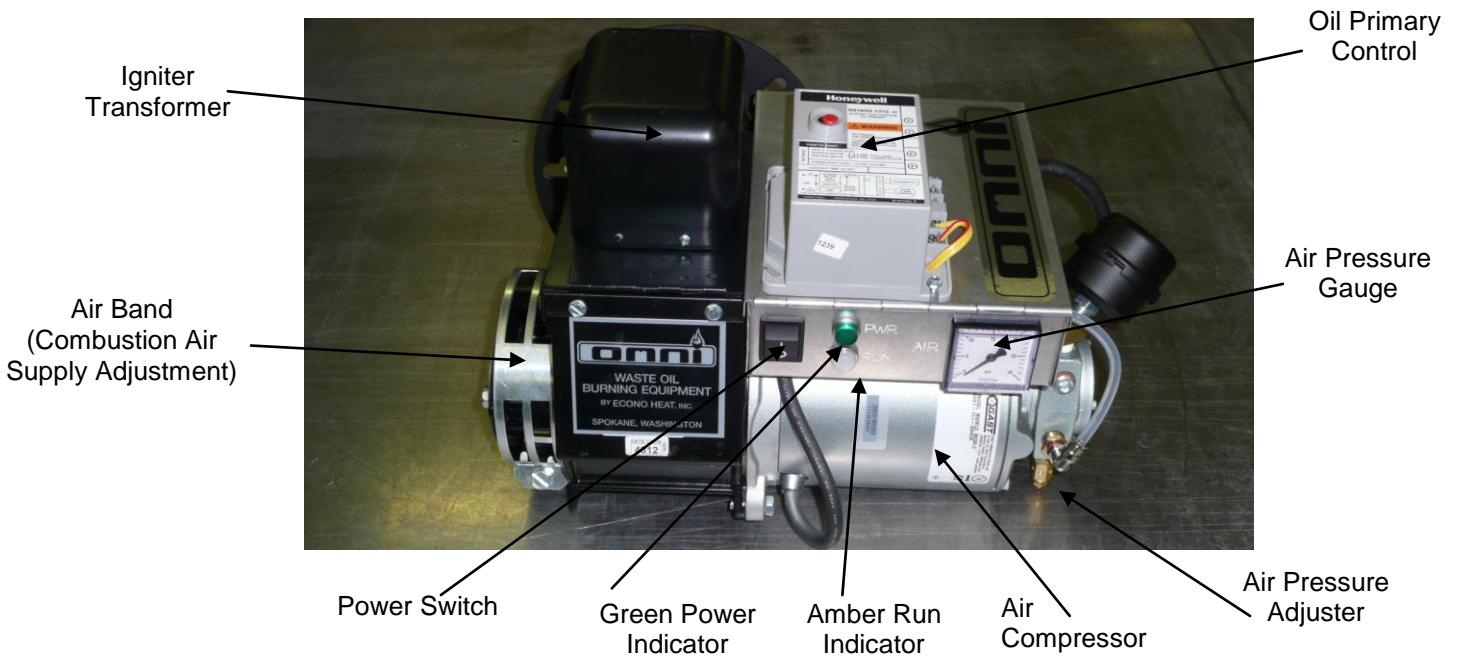
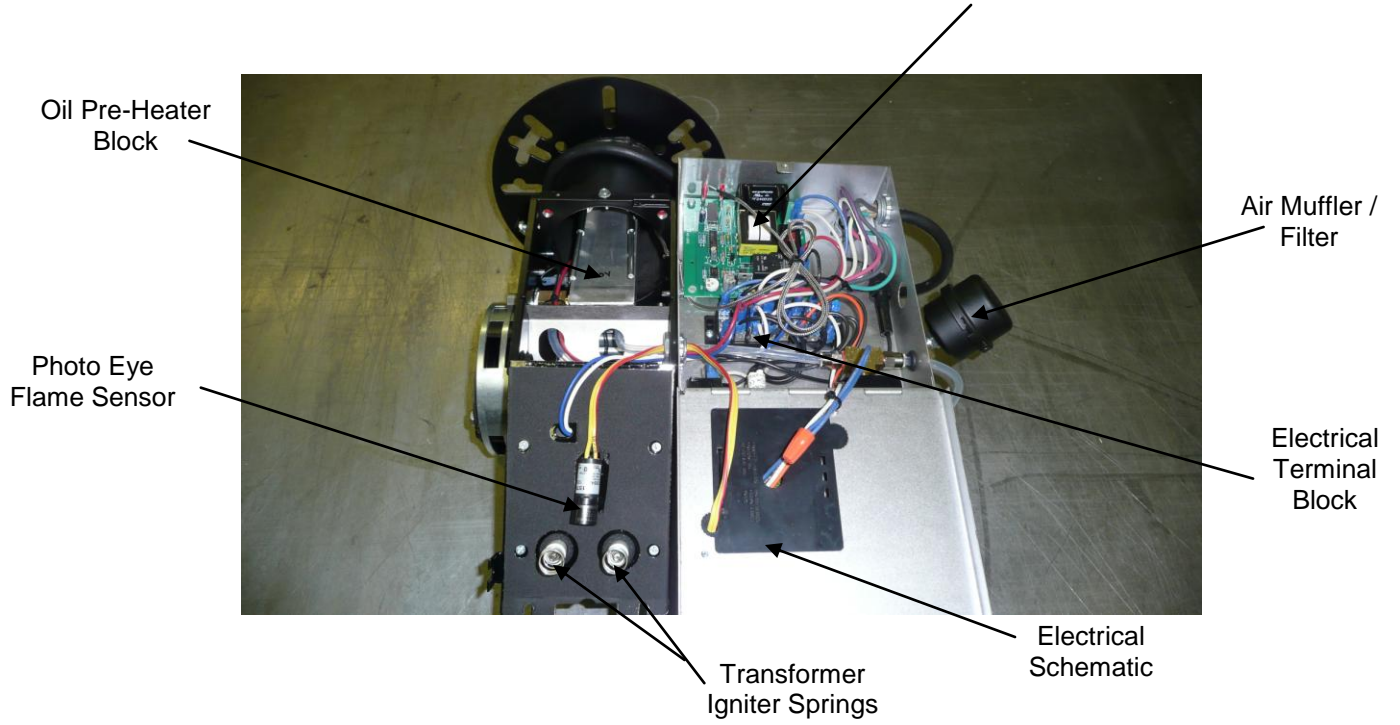
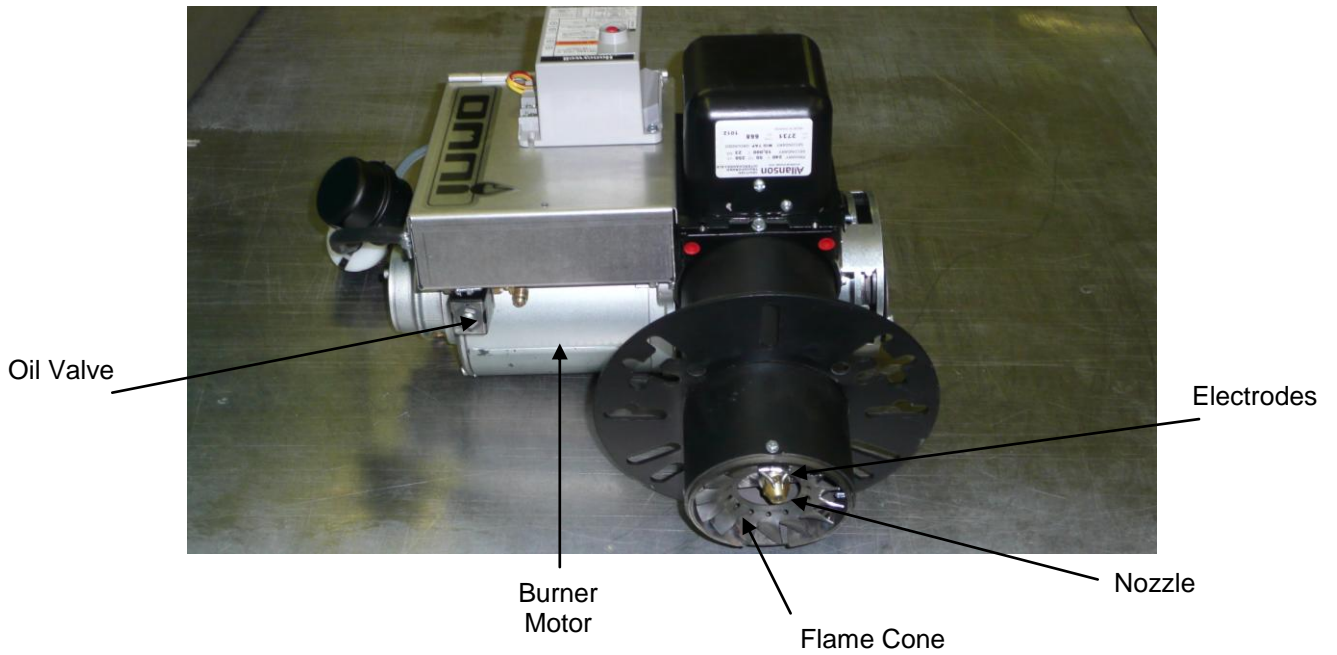

Figure 1 – Oil Burner (Back View Closed)
Figure 2 – Oil Burner (Back View Opened)
Figure 3 – Oil Burner (Front View)
Omni's patented burner technology improves the efficiency of the oil burn process by continuous stabilization of the oil viscosity. Optimum atomization (spray) is accomplished by precisely pre-heating the oil and air prior to introduction to the combustion chamber. The waste oil enters into the Oil Pre-Heater Block (figure2) and is pre-heated to operating thermo setpoint, then compressed air from the air compressor (figure1) is mixed with the oil prior to spraying out the nozzle similar to fuel injection, by breaking up the oil droplets into a finer mist or spray (atomization). Electrodes mounted just above the nozzle (figure3) provides continuous electrical arc across electrode to electrode igniting the fine oil mist as it sprays out of the nozzle. Once ignited the flame is forced into a swirl caused by the burners blower and specially designed flame cone (figure3) providing a very efficient and thorough burn of the waste oil.
- **Igniter Transformer:** (figure 1) Supplies high voltage to the electrodes generating electrical arc igniting the oil.
- **Oil Valve:** (figure 3) energizes when burner is running and de-energizes when burner is not running eliminating bleed back of oil out of the Pre-heater block.
- **Air Band:** (figure 1) Adjusts amount of air introduced into the combustion chamber. Air band is adjusted at the factory for optimum performance. **NO FIELD ADJUSTMENT REQUIRED** unless in high altitudes application where minor adjustment may be required.
- **Oil Primary Control:** (figure 1) Controls the oil burner ignition. Checks for flame in the combustion chamber, if no flame is detected within 45 seconds, the oil primary will shutdown the oil burner. To restart the unit, reset the red button on the oil primary.
- **Oil Pre-Heater Block:** (figure 2) Pre-heats the oil and air before entering combustion chamber.
- **Photo Eye:** (figure 2) Senses flame in combustion chamber and signals oil primary when no flame is present.
- **Igniter Springs:** (figure 2) Transfers the high voltage from the igniter transformer to the electrodes (when door is closed)
- **Air Pressure Gauge:** (figure 1) Displays air pressure supplied by onboard air compressor.
- **Air Compressor:** (figure 1) Supplies air used within pre-heater block to aid in atomization of the oil.
- **Air Muffler/Filter:** (figure 2) Filters air and muffles the sound generated by the compressor.
- **Pre-Heater Control Circuit Board:** (figure 2) Precisely controls temperature of the Oil Pre-Heater Block and controls safety feature of not allowing burner to energize until oil has established operating thermo setpoint or shutdown burner if Pre-Heater Block temperature falls below shutdown thermo setpoint.
- **Electrodes:** (figure 3) Provides continuous high voltage electrical arc from electrode to electrode igniting the waste oil as it is being sprayed out of the nozzle.
- **Nozzle:** (figure 3) Low pressure nozzle for oil spray pattern.
- **Flame Cone:** (figure 3) Specially engineered flame cone forces the flame into a swirl pattern improving the burn thoroughness.
- **Burner Motor:** (figure 3) Multitask motor turns the burner blower and integrated air compressor.
- **Air Pressure Adjuster:** (figure 1) Adjusts the air pressure going to the pre-heater block. Should be adjusted between 12 PSI and 13PSI as indicated on the Air Pressure Gauge on the burner for thorough burn of the waste oil.
- **Power Indicator:** (figure 1) Indicates when power is present at the burner.
- **Run Indicator:** (figure 1) Indicates that the burner is ready for operation after the initial pre-heat time of approx. 5 minutes from initial power up.
- **Power Switch:** (figure 1) Switches power off and on to the burner. NOTE: Not applicable on OWH Series Furnaces.
3. Depending on application, wire low voltage thermostat into "T" terminals on the Oil Primary (figure 1) or jump "T" terminals for continuous operation.
3. Making sure the thermostat is turned off, apply power to the burner. Switch burner main power switch to ON position. After allowing the oil pre-heater time to establish temperature setpoint, approximately 5 minutes. Jump the "T" terminals on the Oil Primary (figure 1). Once the burner is running, temporarily jump the "F" terminals on the Oil Primary. This will allow the burner to run during the pump priming process.
6. Combustion air band (figure1) should be open approximately 1/2" or until flame is clear yellow, not orange. Opening the air band too far may cause delayed in starting or even prevent the flame from starting.